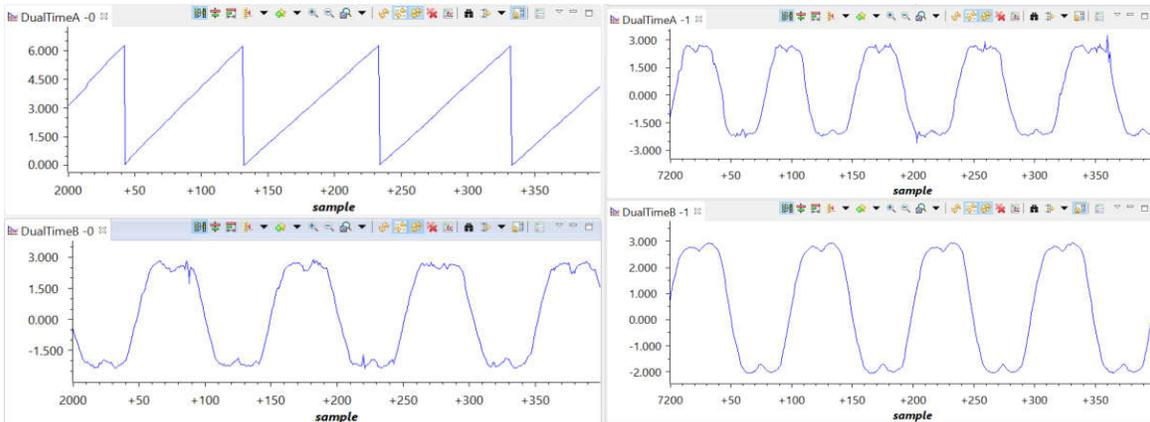

Figure 34: Datalog graphs of rotor angle and three-phase voltage ADC samples
- d. The necessary inputs for displaying the phase voltage samples via the datalog module are shown below, and the angle and ADC voltage samples are shown in **Figure 34**.